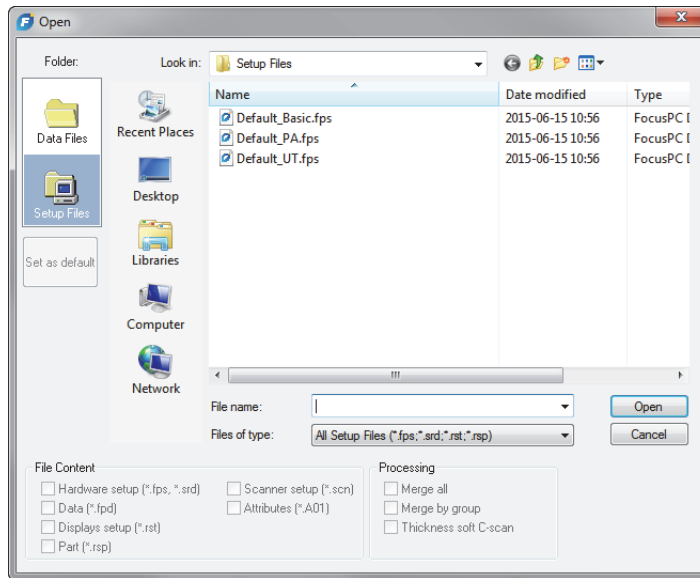

Figure 4-1 Open dialog box
2. In the **Open** dialog box that appears (Figure 4-1 on page 98), proceed as follows: